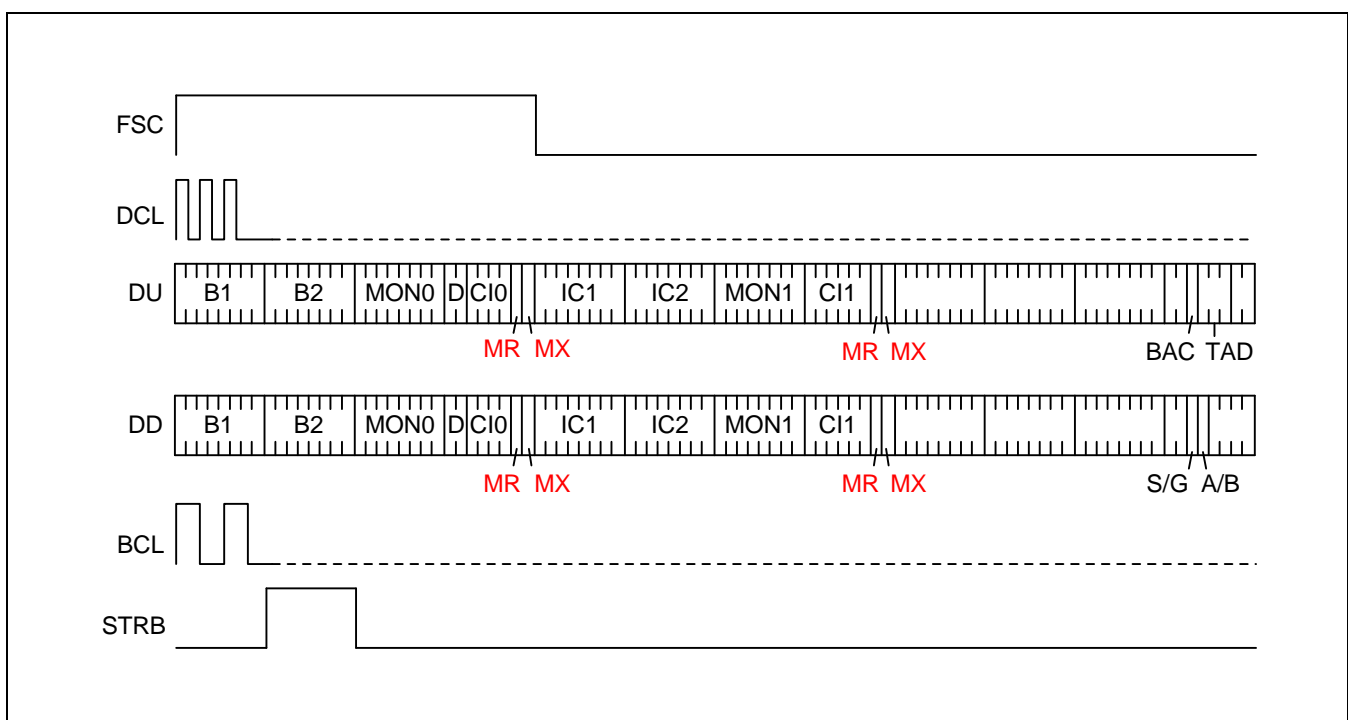

Figure 7-1. IOM2 Channel Structure in Terminal
The IOM2 bus provides a symmetrical full-duplex communication link, containing user data, control/programming, and status channels. Both the line card and terminal portions of the IOM2 standard utilize the same basic frame and clocking structure, but differ in the number and usage of the individual channels. The various channels are time-multiplexed over a four-wire serial interface. Data is clocked by a Data Rate Clock(DCL) that operates at twice the data rate. Frames are delimited by an 8-kHz Frame Synchronization Clock(FSC). Data is carried over Data Upstream(DU) and Data Downstream(DD) signals. Three additional signals are specified in the terminal mode to facilitate connecting components that do not directly support IOM2. These are a 1x-Bit rate Clock (BCL), and two Serial Data Strobes that identify the location of the B channels (SDS1 and SDS2). The S3C4520A includes two optional signals, BCL and SDS1. SDS1 is called STRB in S3C4520A. In S3C4520A, the terminal mode operation is supported but line-card mode is not supported. Figure7-1 shows the IOM2 channel structure in terminal mode.